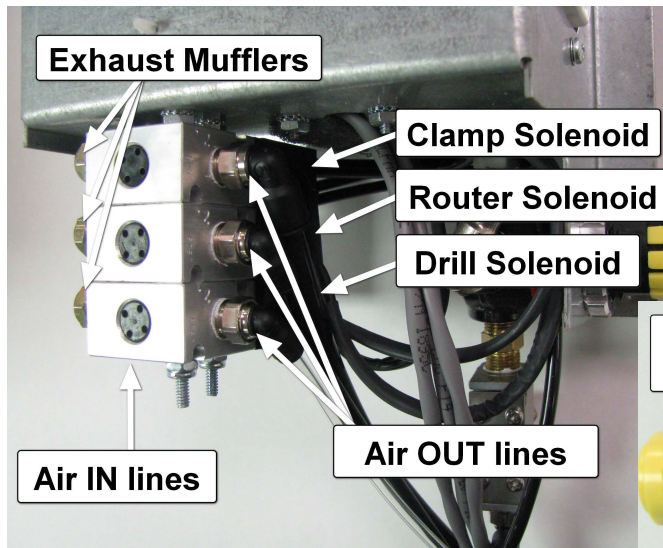

Fig 1a
The solenoids can be manually overridden to allow air flow to the cylinder while air is attached to the machine. This can also be used to flush air through the solenoid to remove any moisture or debris. The manual override buttons are located on the end of the solenoids opposite of the air ports. **See Fig 1a and 1b.**
1. Remove the air line out fitting and the exhaust muffler and press the override button for several seconds. Air should flow through the solenoid. Reassemble and cut a test pocket. **See FIG. 1a and 1b.**